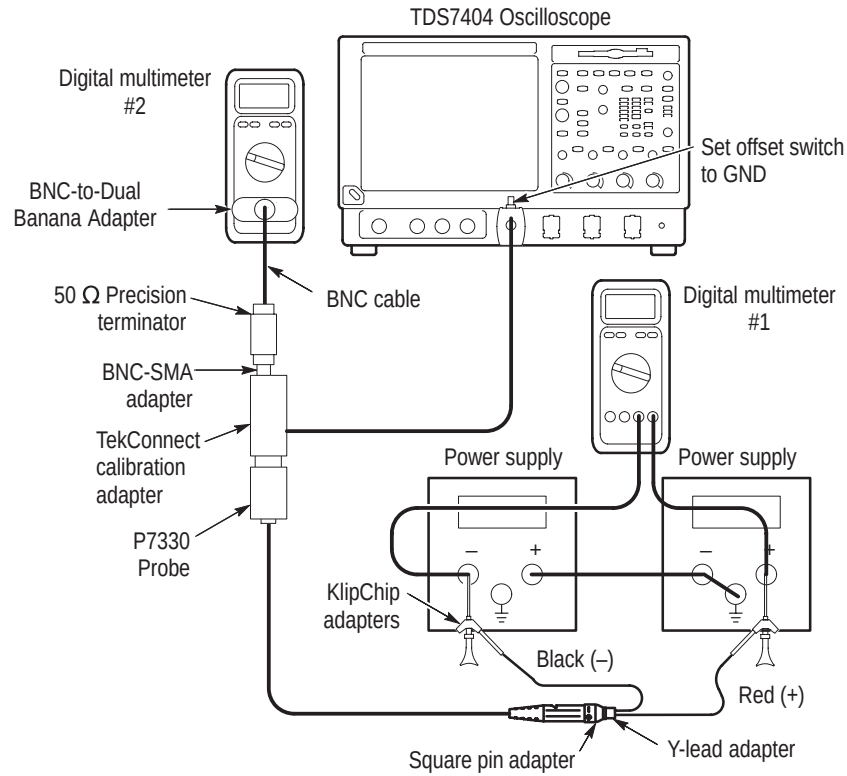

Figure 7: DC Gain Accuracy setup
1. Connect the probe to the power supplies as shown in Figure 7 on page 11. Monitor the source voltage with one of the DMMs (DMM #1 in Figure 7).